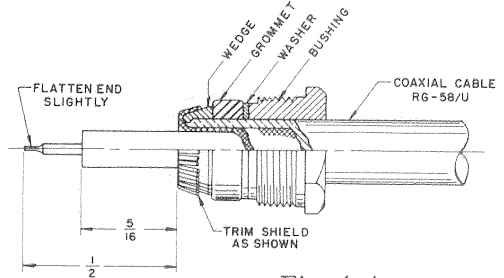

Fig. 4-4.
- (1) Slip the bushing, washer, and grommet over end of cable.
- (2) Remove outer insulation 9/16 inch from end.
- (3) Slip collar over shielding (unbraided).
- (4) Fold back braids and trim as illustrated, Fig. 4-4.
- (5) Remove inside insulation to dimension shown.
- (6) Flatten end of center conductor to sharp chisel edge, push into DC Plug P-602, aligning edge with turns of coil spring.
- (7) Push in grommet and washer and screw bushing down snugly.